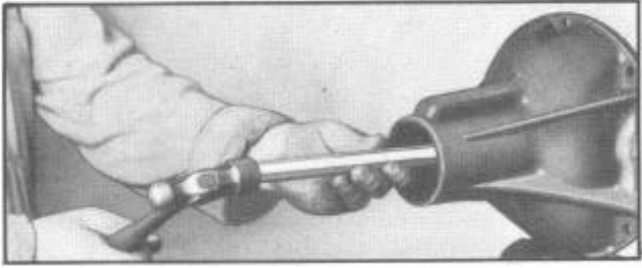

Figure 10--Removing Pinion Shaft Oil Seal
33. Remove pinion shaft oil seal (24), Figure 1, from carrier using pinion shaft oil seal puller tool J 489 as shown in Figure 10. Pinion shaft front bearing cone can now be removed.